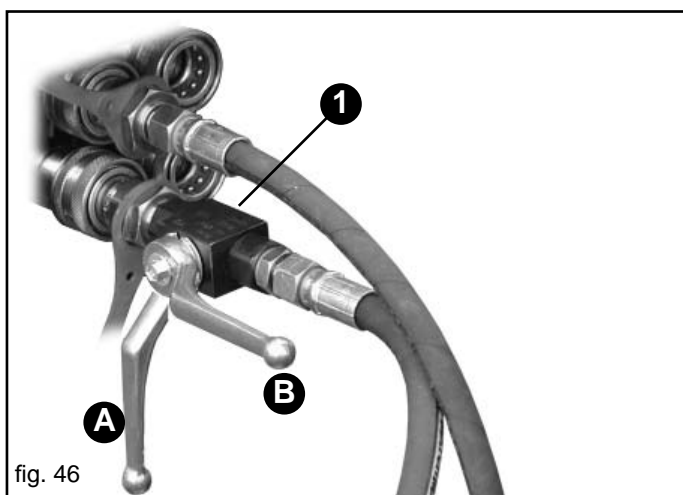

fig. 46
The double-acting hydraulic cylinders allow the row marker to be folded. The row marker device has a valve that actuates the two arms alternately, so reducing use to a single tractor hydraulic distributor. The hydraulic delivery pipe has a tap (1 Fig. 46) that is necessary for excluding the operation of the row marker. **During road transport of the planter, the tap lever must be put in position A (Fig. 46), to prevent accidental opening of the row marker;** this lever is in position B while working.
- 5) Before actuating the row marker device, rest the planter on the ground and put the tap lever in position (B) Fig. 46.
- 8) Put the tap lever in position (A) Fig. 46.